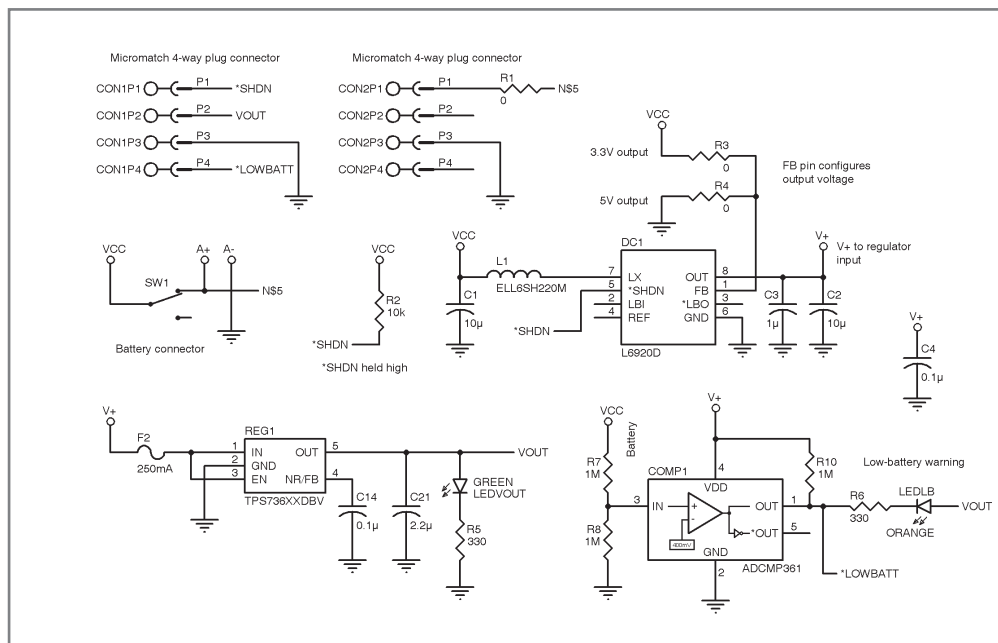

Figure 3—DC-to-DC converter board with a selectable output of 3.3 V or 5 V
the touch-sensor boards makes for a nice little light show to demonstrate your technology. The battery board runs from a single AA or AAA battery and uses an STMicroelectronics L6920D step-up converter (DC1 in Figure 3) to boost the voltage. The output of the converter can be set to either 3.3 or 5 V by connecting the feedback (FB) pin to the output (OUT) pin or to ground. This is set by populating either R3 or R4 in Figure 3 with a 0-Ω resistor. As with all DC-to-DC converters, there is an appreciable ripple on the output. Touch-sensor circuits can be sensitive to a ripple in the voltage rail, so I use the 5-V output option and an additional regulator stage to reduce this ripple (REG1 on Figure 3). **Photo 4** shows the ripple from the converter and the smoother output from the 3.3-V regulator. Note the different scales on the traces. Clearly, the regulator significantly reduces the ripple. This ability is listed as power supply rejection ratio (PSRR) on the component's datasheet. During my testing, I used the smooth 5-V USB power rail available from the FTDI cable to power the device. But having the clip-on battery board enables me to show off the touch sensor and LED boards at meetings. The smoothed output from the regulator will be useful for future analog designs I have in the pipeline.